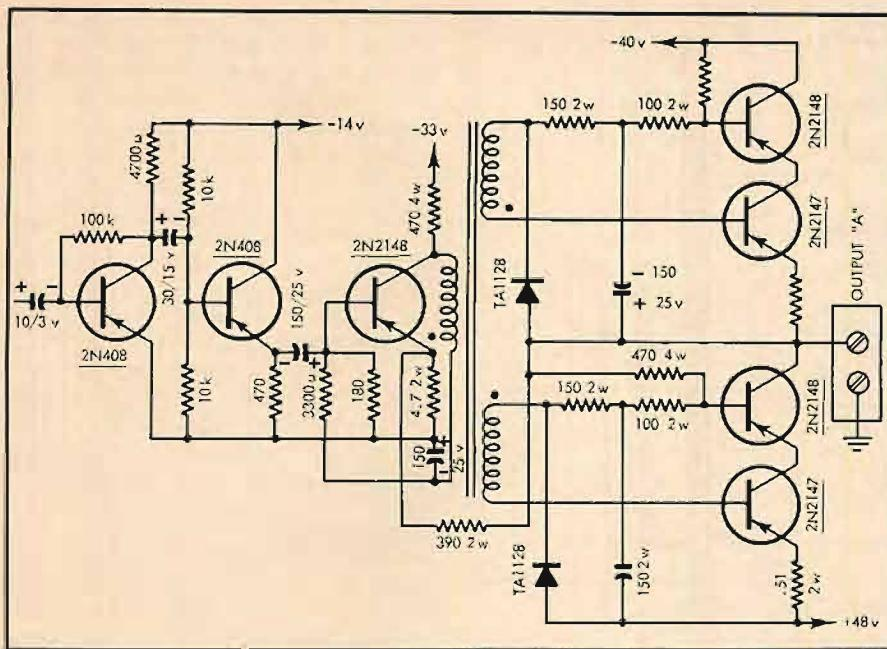
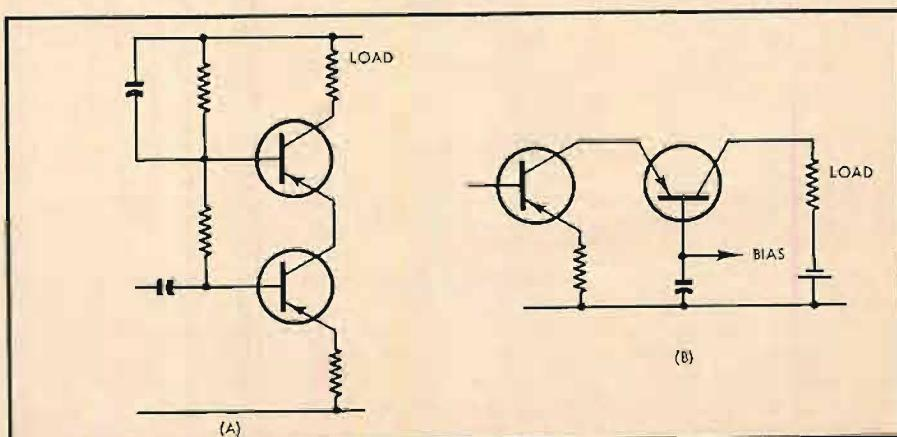

Fig. 4. Variation of basic circuit used in particular amplifier, Knight KN-450.
Fig. 5. The cascode circuit, grounded-emitter grounded-base amplifier gives low internal impedance.
*Figure 4* shows more covers from '47 and '48—the first with one of the first published photos of an anechoic chamber and the remainder devoted to master and studio control facilities of radio stations.
Fig. 4. Four of the earlier covers of the magazine: August, 1947, showing an anechoic chamber; December, 1947, and July and December, 1948, each with radio station installations.
The variation shown in Fig. 4 is relatively uncomplicated and used a driver
in (A) and (B) of Fig. 5. The driver transistor is, of course, a power transistor. In the circuit of Fig. 4 the feedback is very simple, just a resistor connected between the live end of the speaker and the emitter of the driver transistor but in a version of this circuit described by RCA the ground end of the speaker is taken through a small resistor in the driver emitter lead to provide current feedback as well.
A feature of the cascode circuit is that with the high voltage, some 80 volts centered on ground, it becomes worthwhile to provide a supply which is virtually a twin supply. The circuit of Fig. 4 runs one half-wave rectifier into the negative line, starting with -40 v. for the output stage and dropping through a succession of RC filters to feed the earlier stages with lower and quieter supplies, while a second half-wave rectifier, in the opposite sense, provides a positive 42-volt line for the other half of the output stage. If the output stage is fully driven there should be 40 volts peak across the speaker.
Fig. 4. Byrns Orchestra binaural recording session, 1952, for Capitol records. Note the "blockhead" with two mikes on the left. (Photo courtesy Ed Uecke, Capitol Records).
"In inquiring into our early history of stereophonic recording, I find that we really came in by the back door. Originally we experimented with a two track recorder for 'binaural' reproduction using headphones and made several experimental recordings in 1952. I am enclosing two (2) photographs (Figs. 4 and 5) of a session done on April 25, 1952 showing an orchestra conducted by Harold Byrns. You will note the influence of the U. S. Naval Electronic Laboratories research using two (2) microphones spaced at the ears would be in a human head with hatter's block to simulate the head. The demonstration of localization using headphones was spectacular and we were all quite thrilled. Because of the way in which stereophonic reproduction had been handled in motion pictures, there was a strong inference that three-track recording would be necessary or at least highly desirable for loudspeaker reproduction. You may remember that there was a three-track  $\frac{1}{4}$ -in. Ampex tape machine which made its appearance in Los Angeles and I believe that Santa Monica Symphony recording was done with this equipment. Anyway, it was not until August of 1952 that we obtained a satisfactory proposal from Ampex to construct a  $\frac{1}{2}$ -in. three-track tape machine. This was delivered to us on January 6th of 1953 but was not immediately used for stereophonic recording. Its first application was to record vocal, chorus, and